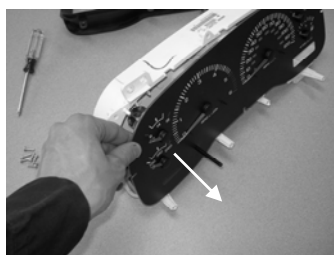

Figure 6
5. Carefully remove the OEM graphic & gauge assembly by pulling it evenly away from the circuit board & housing assembly. (See figure 6)